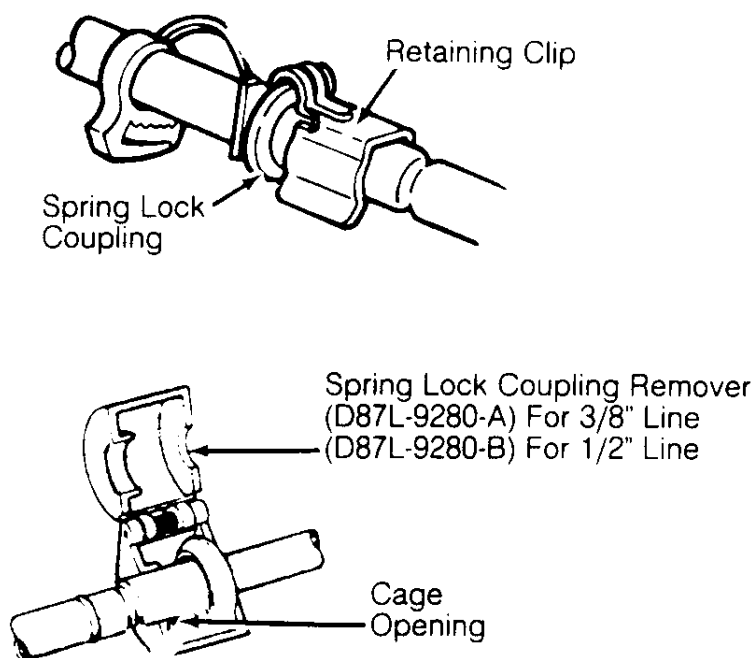

Figure 3
2. Disconnect necessary electrical connections, control cables, linkages, vacuum hoses, ventilation hoses, and coolant hoses at throttle body and manifold. **Do not disconnect fuel lines unless absolutely necessary. Special tooling and procedures are required to re-install fuel lines. See "Fuel Line Removal and Installation" Figure 3, page 4.**
3. Use Spring Lock Coupling Remover (D87L-9280-A) for 3/8" line or (9D87L-9280-B) for 1/2" line. Install spring lock coupling remover on fuel line coupling so it enters cage opening. See Figure 3.